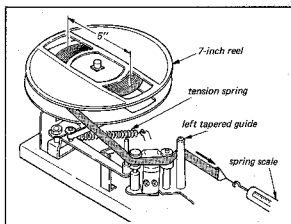

Fig. 4-8. Tape tension check
2. Make a loop in the tape and attach a spring scale as shown in Fig. 4-8.